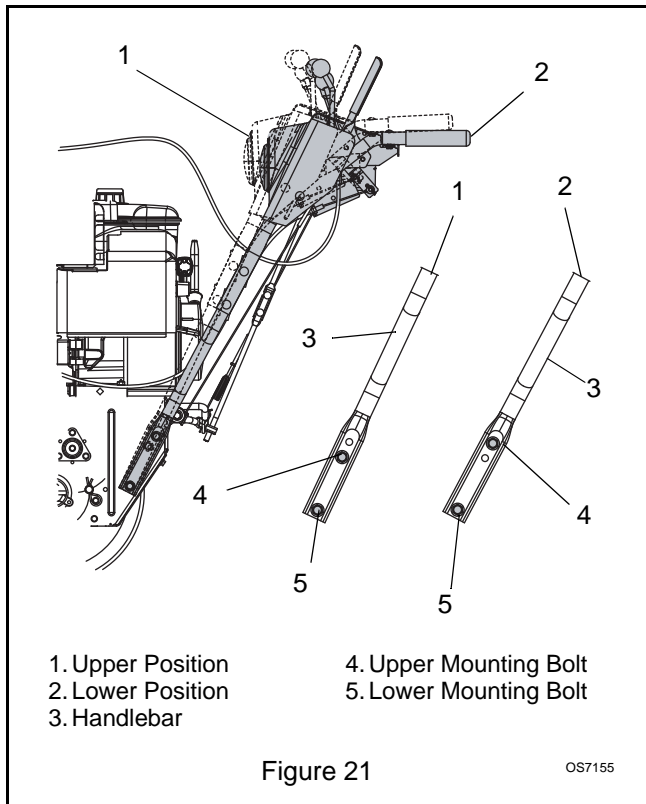

Figure 21
5. Secure handlebar to frame with hardware removed in step 4 using the different hardware locations shown in Figure 21.